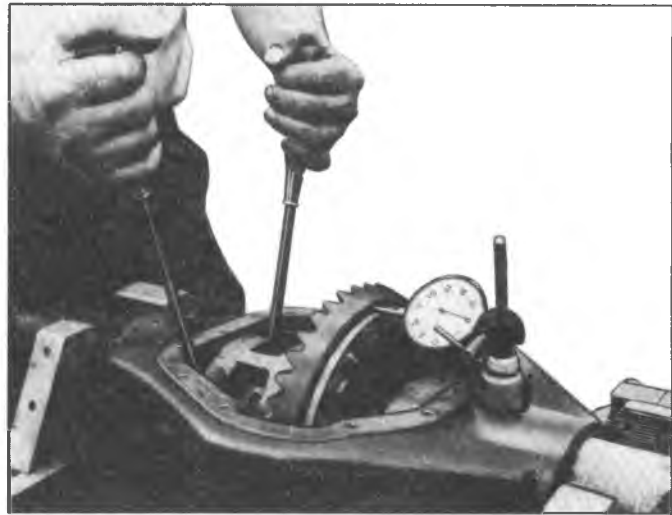

Fig. 8F—Screwdrivers Against Case
7. Reposition the screwdrivers to the opposite side of the differential case as shown in figure 8F.